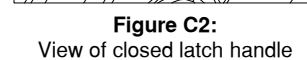

Figure C2:
3. **Prepare to adjust latch tension.** Once the base is in place, remove the cotter pins from each of the four castle nuts. Engage the cams with each attachment point by turning the latch handles back to their latched position, see Figure C2. If a handle will not turn easily, loosen the castle nut until the cam will freely turn and engage the attachment point.